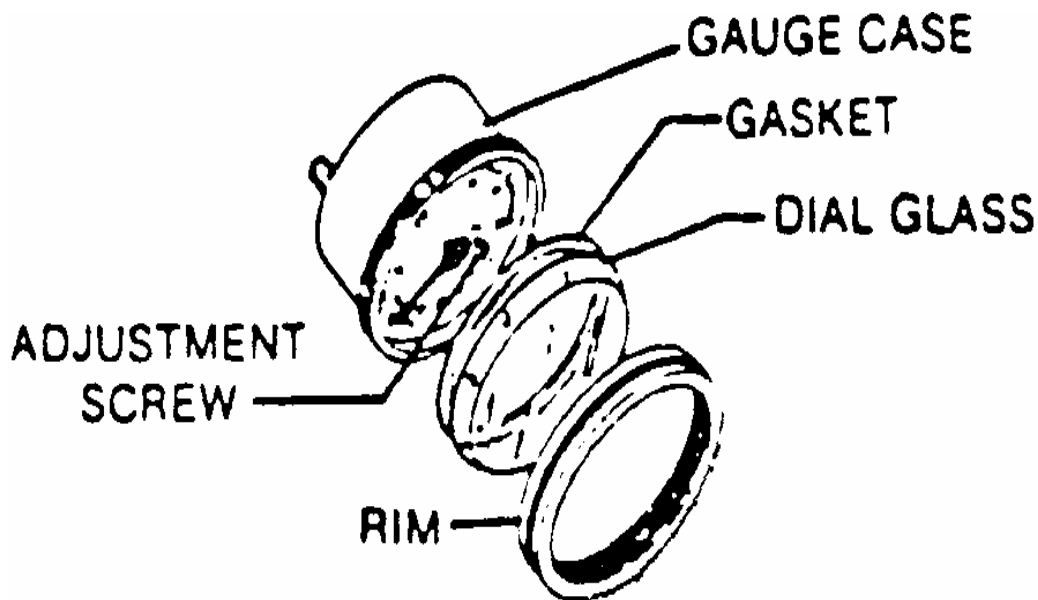

Figure 1-18. Jacket pressure gauge.
- (1) Remove the right side panel for access to the valve if the sterilizer has a cabinet.
- (2) Close the valve finger tight, then open 1/4 turn.
- (3) Adjust the valve so that it takes 10 to 15 minutes in the exhaust phase of a liquids cycle to empty the chamber. Make the adjustment with an empty chamber.
- (4) If sediment restricts the flow of steam through the valve, clean the valve and readjust it.
c. **Adjust the Jacket Pressure Gauge.** Adjust the jacket pressure gauge if the gauge does not read zero when there is no jacket pressure (unit is off and cool). Refer to figure 1-18.